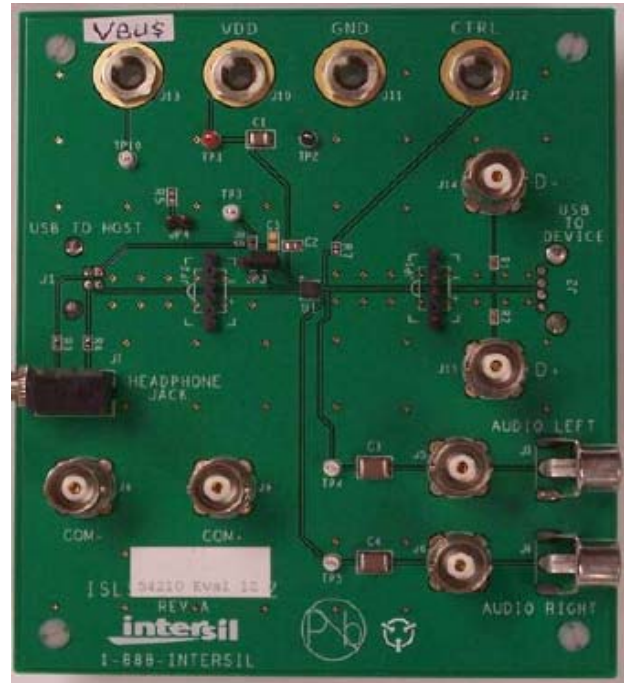

FIGURE 1. ISL54210EVAL1Z EVALUATION BOARD
- The basic layout of the main board is as follows (refer to Figure 1):